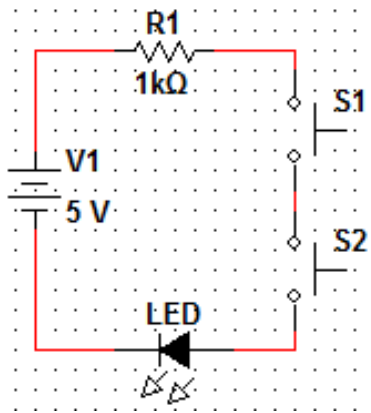

Figure 5: Schematic of AND gate implemented with pushbuttons
- Turn the output of the power supply off and build the circuit represented in Figure 5. Use Figure 6 as a reference.